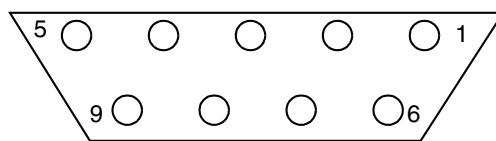

Figure 8. Pin Assignment for Female (Terminal) Connector
3. Connect the 9-pin female connector to one of the available serial communication channels normally referred to as COM1 (COM2, etc.) on the PC running terminal emulation software. The connector on the PC/terminal may be male 25-pin or 9-pin. It may be necessary to obtain a 25 pin-to-9 pin adapter to make this connection. If an adapter is required, refer to Figure 8.